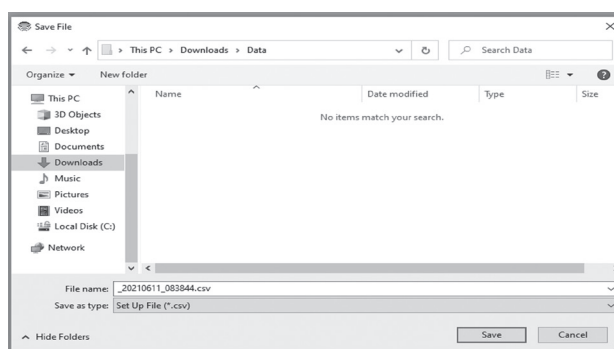

Fig.181
- ⑤ When the "Save" button is clicked, a common dialog as shown in Figure 181 appears. Specify the place to save the file and the file name to save the file.